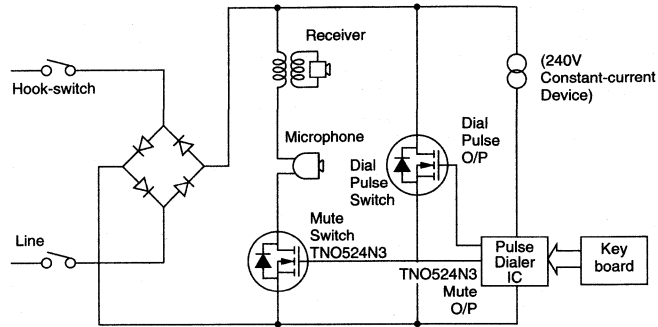

Figure 7: MOSFETs in a Telephone Handset
- Telephone handsets encounter wide variations of voltage during normal operation (Figure 7). While the DC voltage appear-